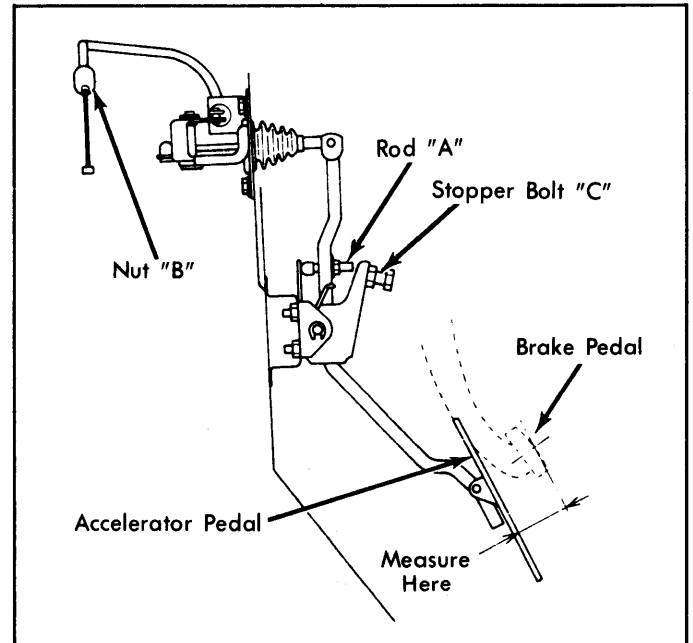

Fig. 9: Accelerator Pedal Height Adjustment
1) Accelerator pedal should be 1.5-1.9" (40-50 mm) lower than brake pedal. Turn linkage rod "A" to obtain correct adjustment. See Fig. 9. Cable free play at carburetor should be .04-.12" (1-3 mm).